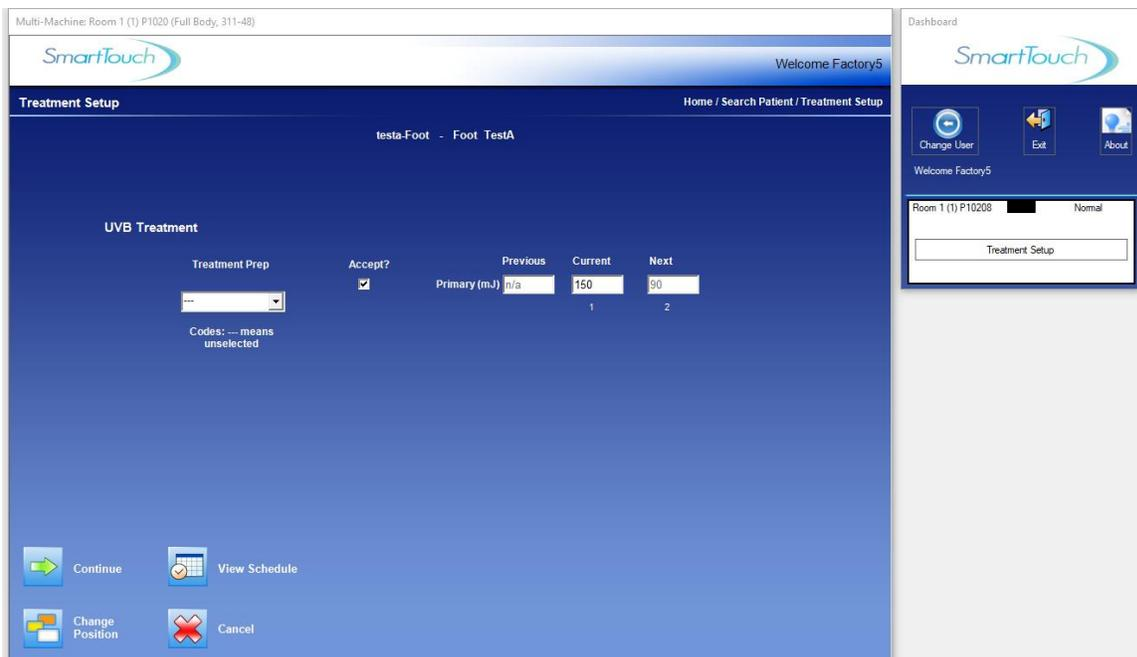

Figure 17 Treatment Setup Screen
4. The Treatment Setup screen will appear (See Figure 17). This screen displays the Previous, Current (proposed), and Next treatment information, based on the assigned protocol. If the secondary treatment option was chosen when the patient was set up, a proposed secondary treatment will also be displayed.
1. From the Treatment Setup screen (See Figure 17), make desired changes to the dose in the **Current** field.
1. While at the Treatment Setup Screen (See Figure 17), press **Change Positions**. The Change Protocol screen will appear.